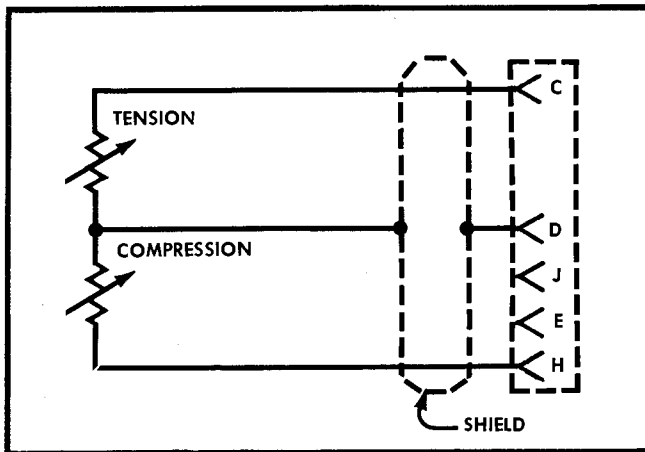

Fig. 2-7. Electrical connections for resistive transducers using two-conductor shielded cable.
**Two-Conductor Shielded Microphone Cable.** Fig. 2-7 shows circuit connections using two external resistance bridge arms and a two-conductor shielded cable. The shield braid is used as one of the signal leads. If the braid is grounded at the test side, differences of potential between the test-side ground and the oscilloscope ground can appear at the Type 3C66 input. Except in extreme cases, this connection does not introduce an objectionable amount of interference or hum. Generally, three-conductor cable is preferred in this application.